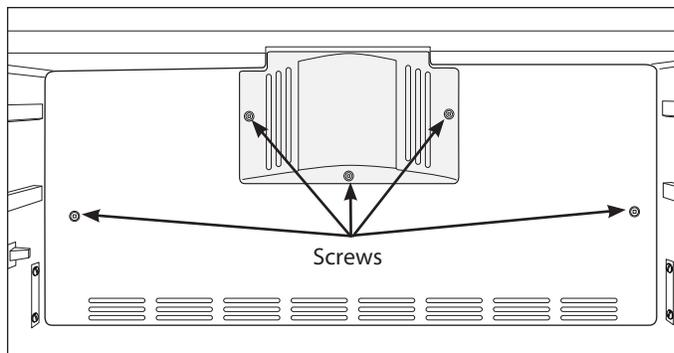

Figure 6-46.
4. Remove 3 screws from fan motor cover and lift out of evaporator cover. (See Figure 6-46)